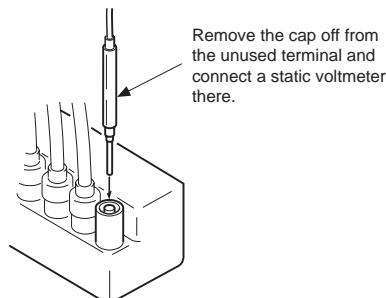

Fig. 4-1
1. Connect a HV static voltmeter to the unconnected plug of the high-voltage block. (**Fig.4-1**)